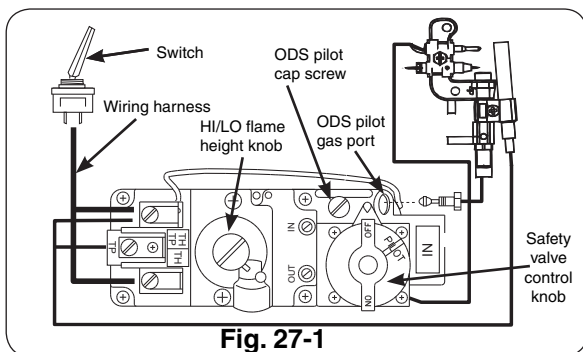

Fig. 27-1
To read the safety valve control knob (Fig. 27-1), read the marking nearest the teardrop-shaped metal pointer.
- b. If adjustment is necessary, remove the cap screw (Fig. 27-1) and turn the smaller gas adjustment screw inside counterclockwise ↺ to increase the ODS pilot flame, and clockwise ↻ to decrease the ODS pilot flame. Replace the cap screw.